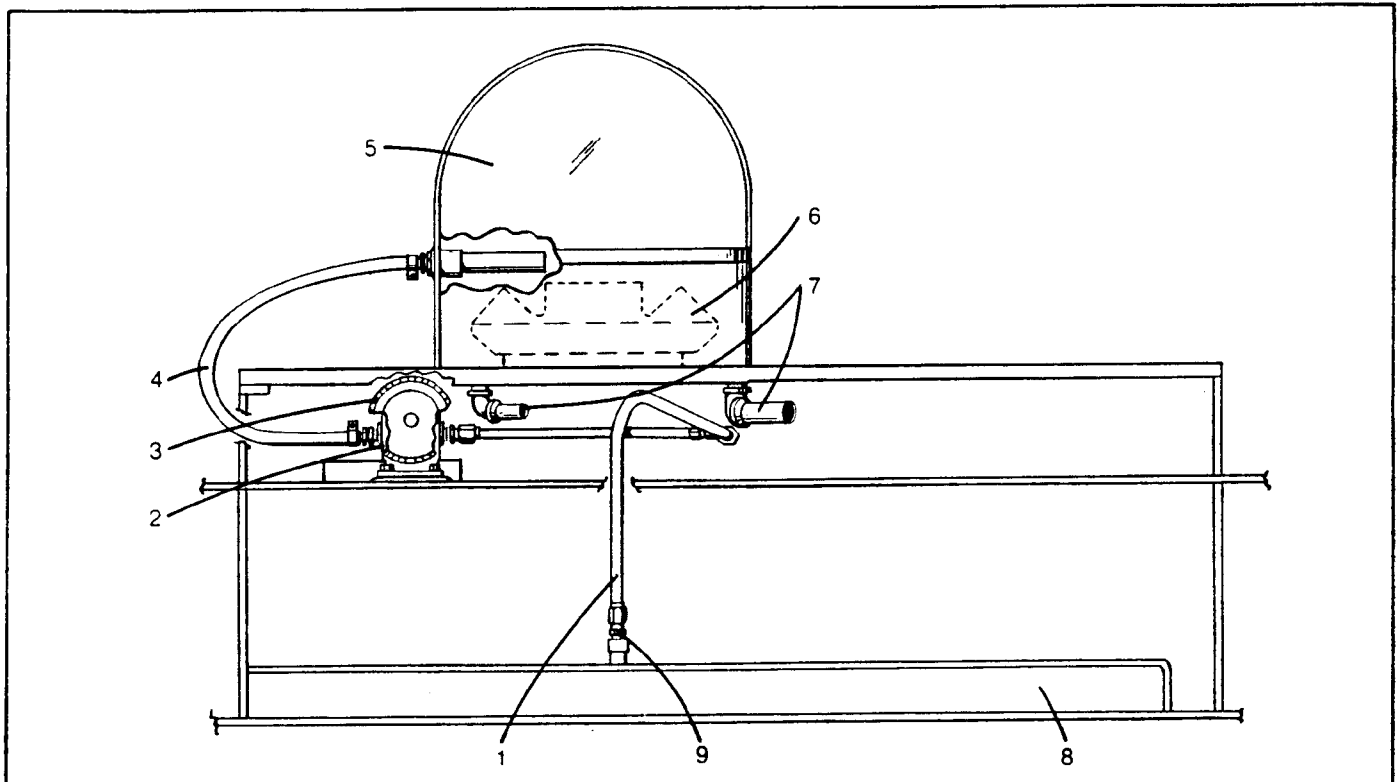

Fig. 1
System Operation (Fig. 1)
The reverse shaft bevel gear and the horizontal deck gears run in oil supplied by the gear case lubrication system. The oil is circulated through the system by a Browne And Sharpe gear type pump (item 2 in Fig. 1). The pump is driven by the reverse shaft gear on the right side of the machine. Refer to Fig. 1.
Oil Level Check (Fig. 1)
To check the oil level, the system is equipped with a flow indicator. Two types of flow indicators are used, either a sight glass or a transparent flow indicator line (item 4 in Fig. 1), depending on the date of manufacture.
Oil Change (Fig. 1)
To drain the sump (item 9 in Fig. 1), remove a drain plug located to the rear of the bottom plate. The filler plug is located on the left hand side of the machine. Refer to the lubrication chart or Operator's Manual for the lubricant and change interval.